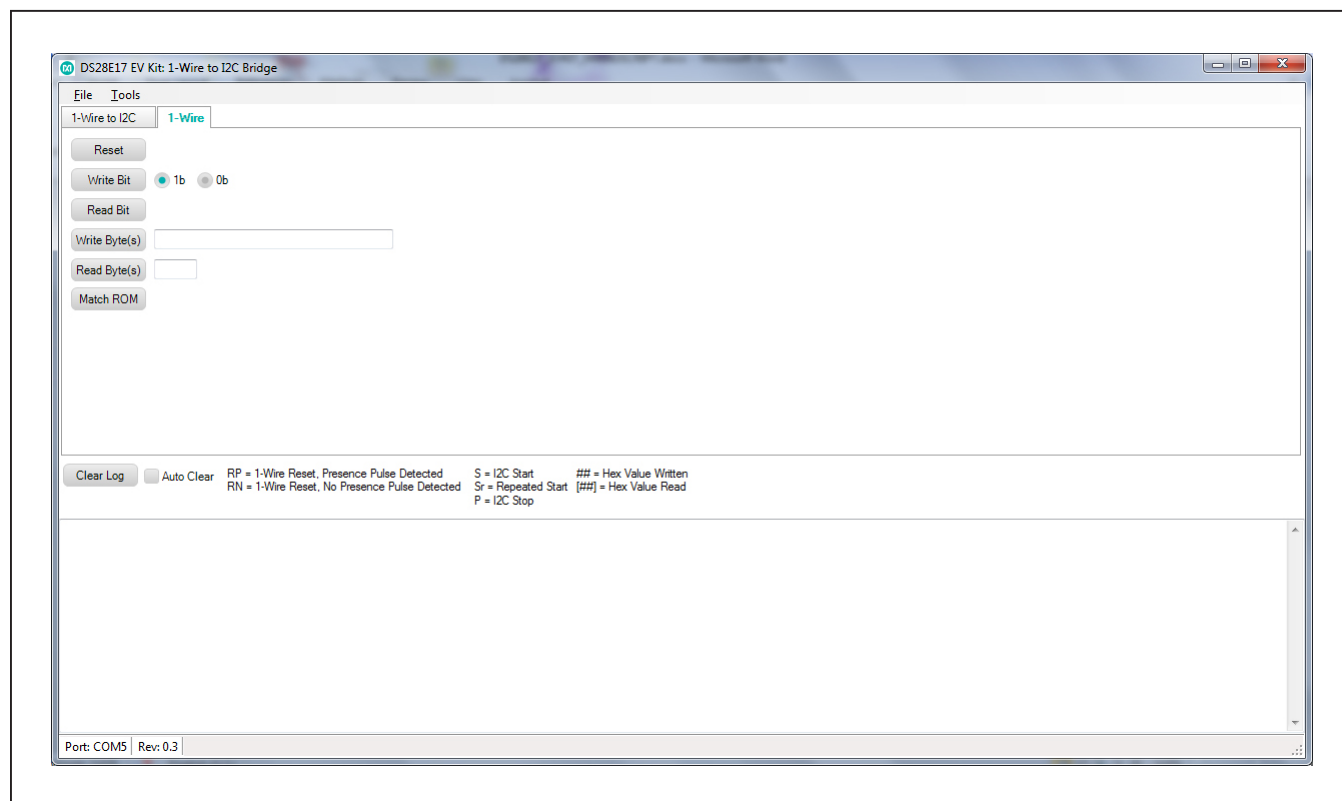
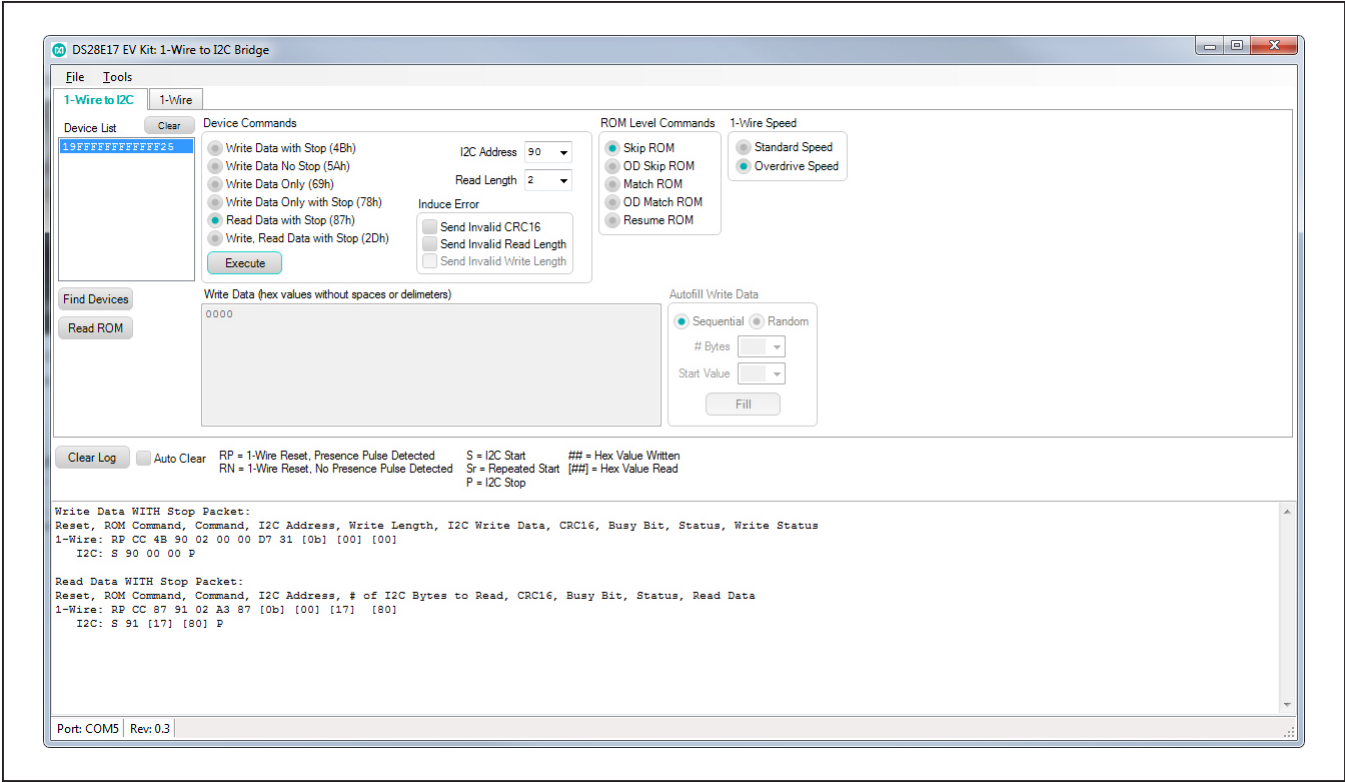
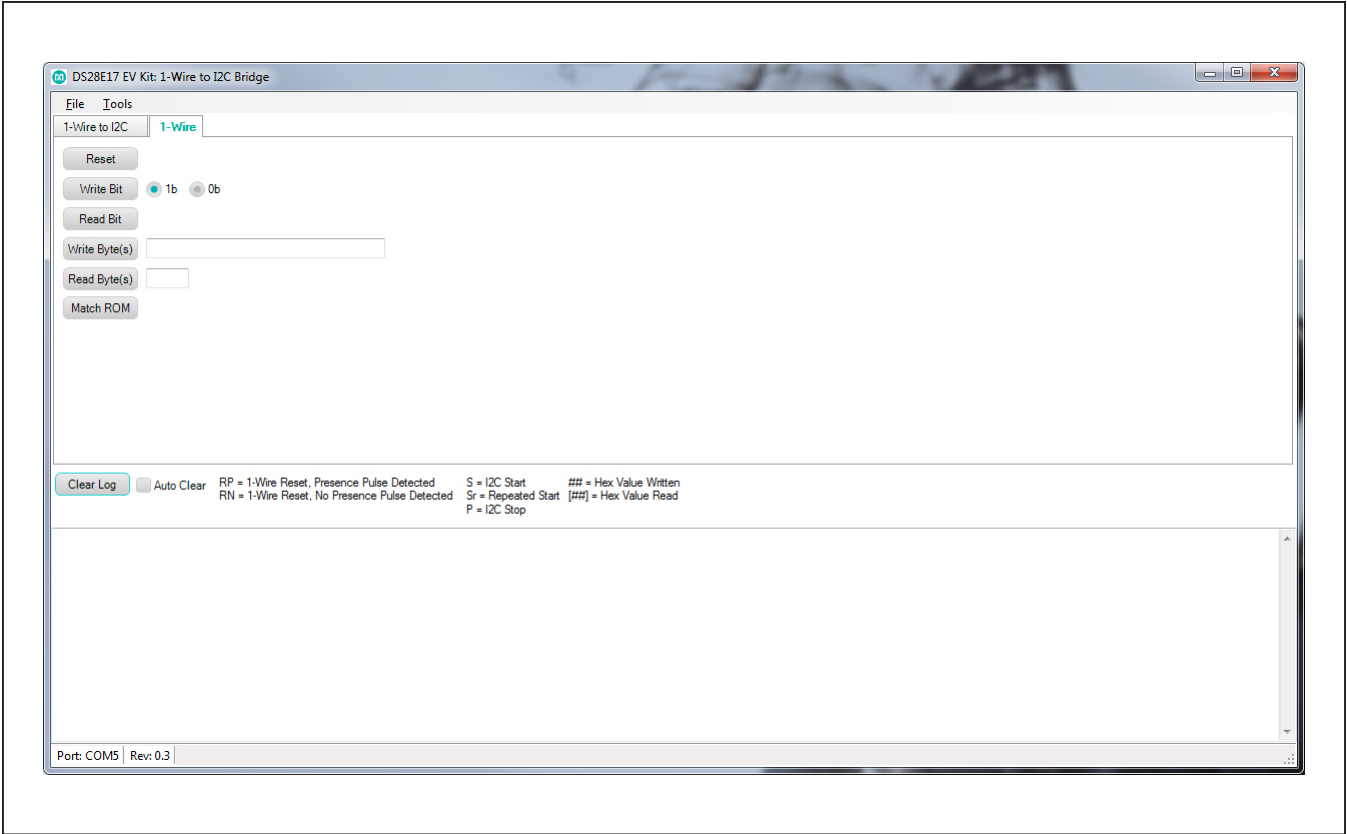

Figure 12. DS28E17 EV Kit Software, Main GUI Interface
Figure 15. DS28E17 EV Kit Software GUI (1-Wire to I2C Tab)
Figure 16. DS28E17 EV Kit Software GUI (1-Wire Tab Functions)
The DS28E17 evaluation program user interface (Figure 12) has two tabs: **1-Wire to I2C** and **1-Wire**. The **1-Wire to I2C** tab (Figure 15) is the main tool to evaluate specific functions of the DS28E17. The **1-Wire** tab (Figure 16) provides 1-Wire communication functions down to the bit level. These functions allow manual creation of communication sequences beyond those found on the **1-Wire to I2C** tab.
The **1-Wire to I2C** tab (Figure 15) provides the following elements: **Device List** text box, **Device Commands** group box, **ROM Level Commands** group box, **1-Wire Speed** group box, **Find Devices** and **Read ROM** buttons,
The **1-Wire** tab (Figure 16) provides the low-level 1-Wire primitives that can be used to construct any 1-Wire communication sequence. Choices made in the **1-Wire Speed** group box under the **1-Wire to I2C** tab (**Standard**
- The two I²C bytes received ([17] [80]) denote the device temperature, 23.5°C (see Figure 15).